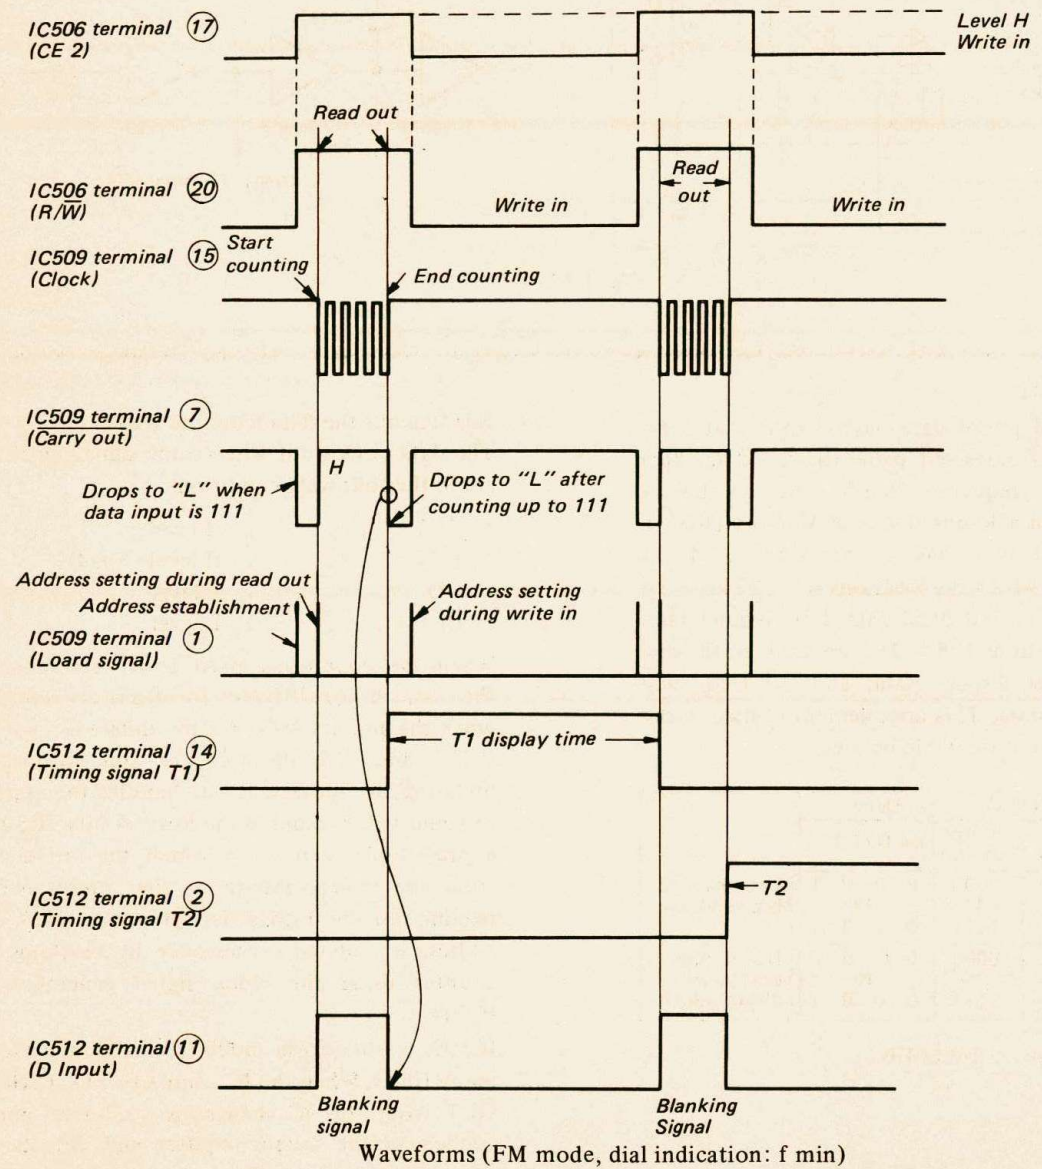

Fig. 1-12.
As is clear from Fig. 1-12, the CARRY OUT signal changes to "L" after IC509 has counted up to 1111. When CARRY OUT changes to "L", the D input at terminal (1) of IC512 changes to "L" whereby IC512 gives out the timing signals. Therefore, the D input to IC512 will be "H" when the data is being read out from the RAM. Since there is no timing signal outputs during this period when the D input is "H", neither the dial displays or the frequency displays will be made during this period. This, in other words, acts as the blanking signal for the display in order to blank out the changing data and the flickering data. This blanking signal is also applied to the microcomputer where it is used for detecting the completion of the read-out. When the microcomputer detects the end of data read-out, it moves to the subsequent operations.